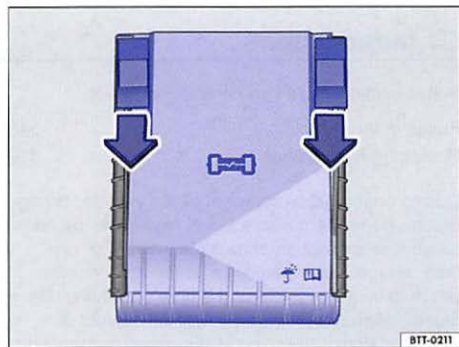

Fig. 166 In the engine compartment: Fuse box cover.
- Slide the release buttons forward in the direction of the arrows $\Rightarrow$ fig. 166 to unlock the fuse box cover.